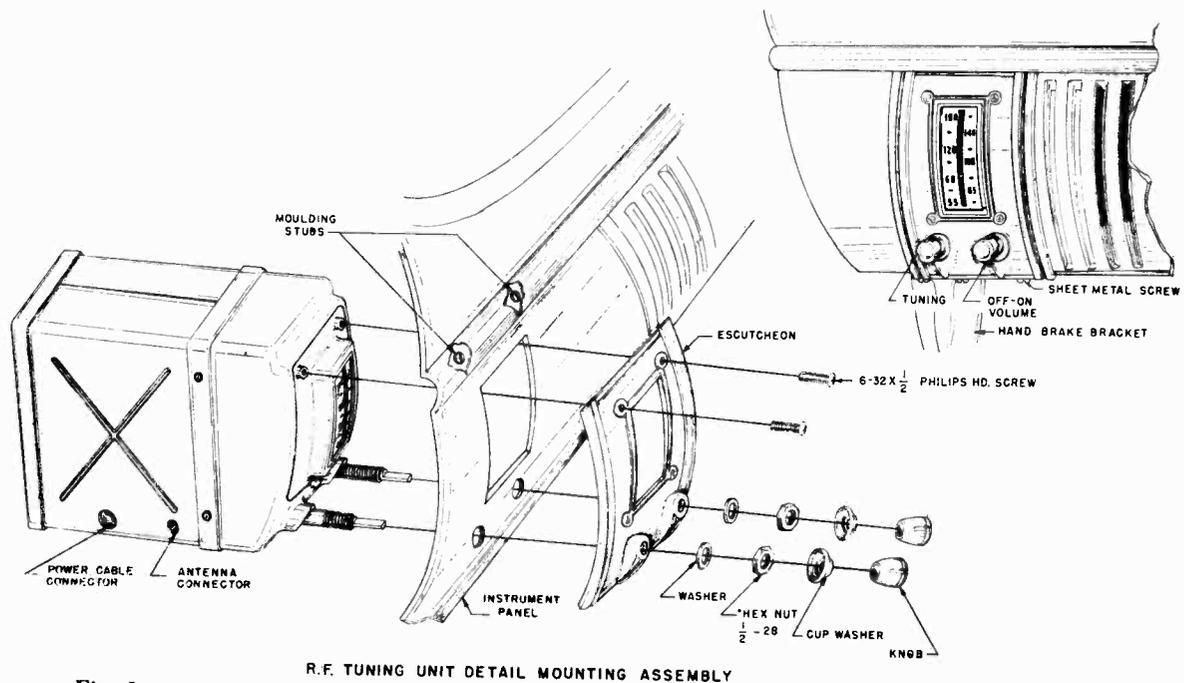

Fig. 1
7. Slide plastic escutcheon over mounting bushings and secure with flat washers, nuts, cup washers, and knobs as shown in Fig. 1